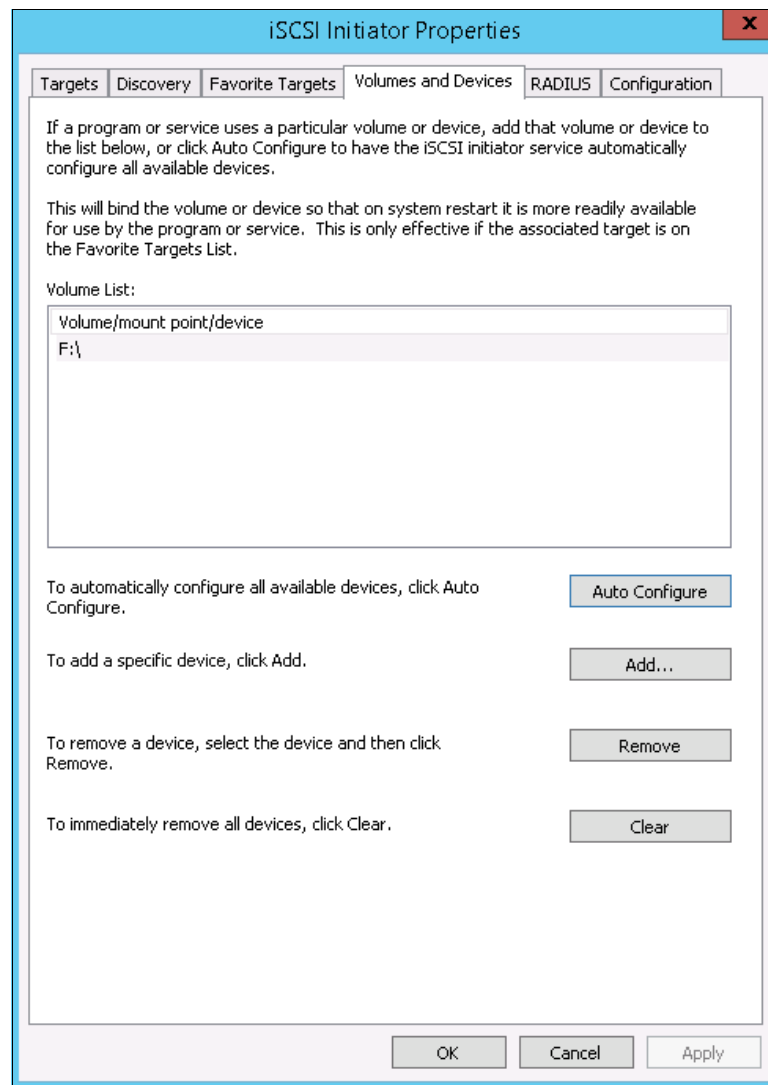

Figure 3-28 Connected Volumes list
16. Select **iSCSI Initiator** from the Administrative Tools Window to display the iSCSI Initiator Properties window. Click the **Volumes and Devices** tab to show any newly created volumes (see Figure 3-28).